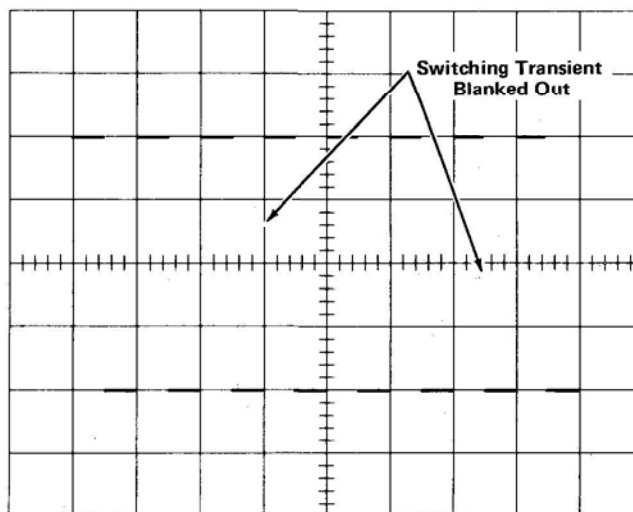

Fig 5-15. Typical CRT display when checking chopped blanking.
- d. CHECK—For complete blanking of switching transients between chopped segments (see Fig. 5-15).